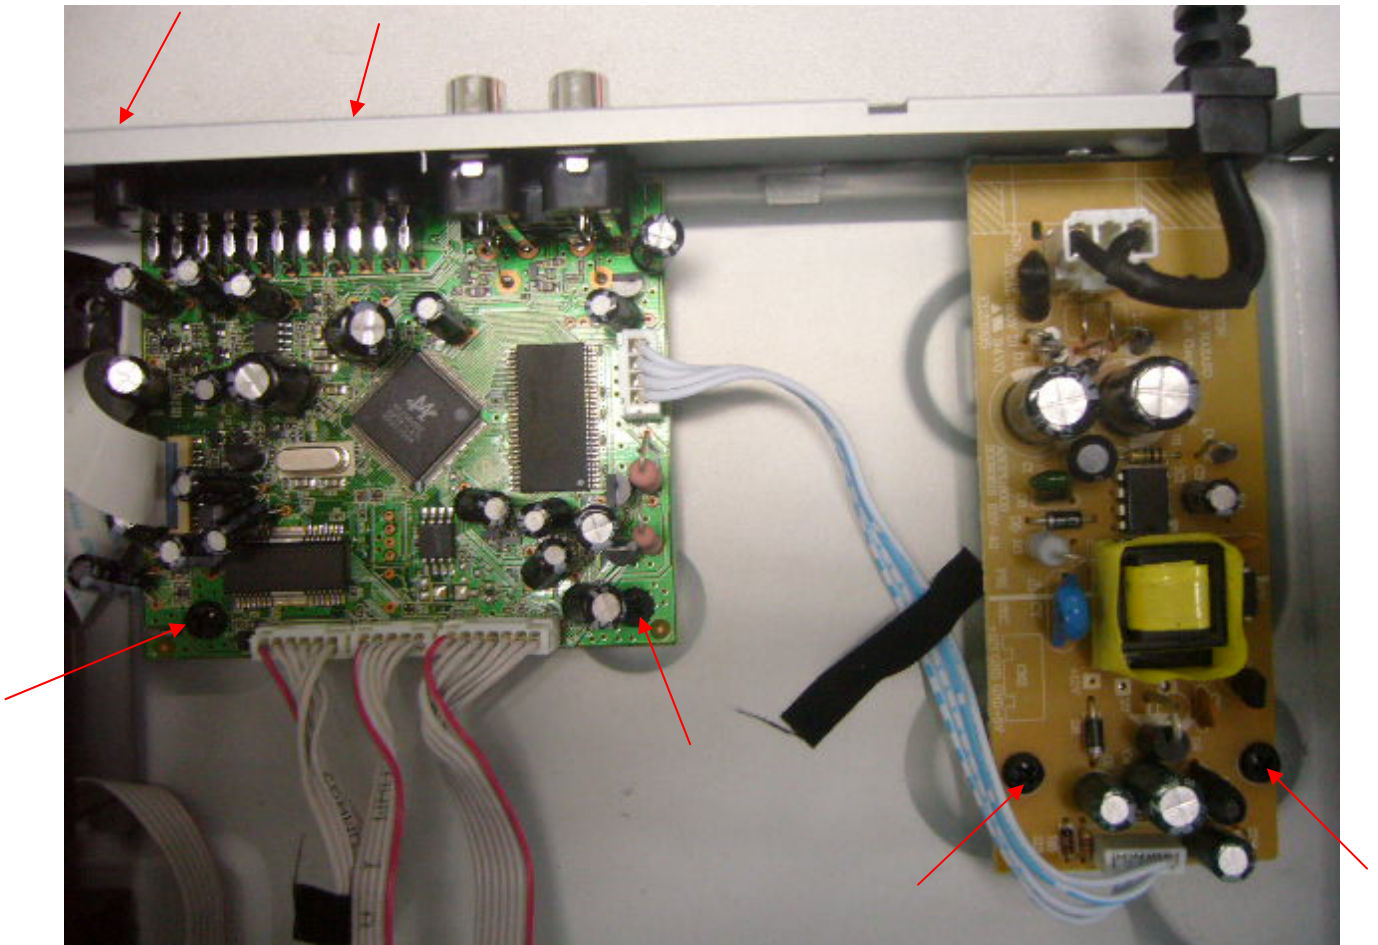

Figure4
Step4: Remove the 10 screws on board to dismantle the DVD BOARD & POWER BOARD & LED BOARD (Figure 4&5)